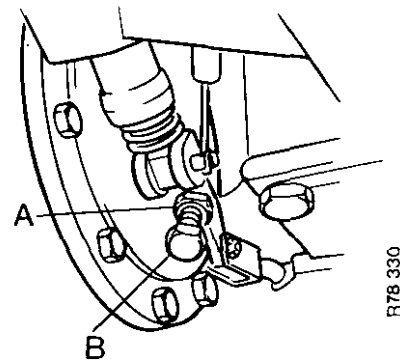

FIGURE 139. 1210 BRAKE ADJUSTMENT
3. Release the locknut A Figure 139.